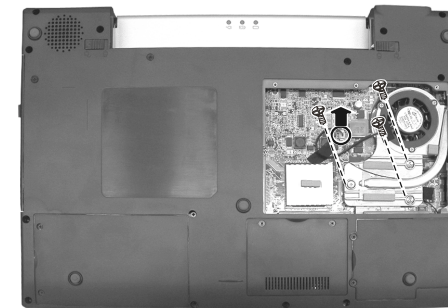

Figure 2-5 Free the heatsink
3. Remove three spring screws that secure the heatsink upon the CPU and disconnect the fan's power cord from system board. (Figure 2-5)